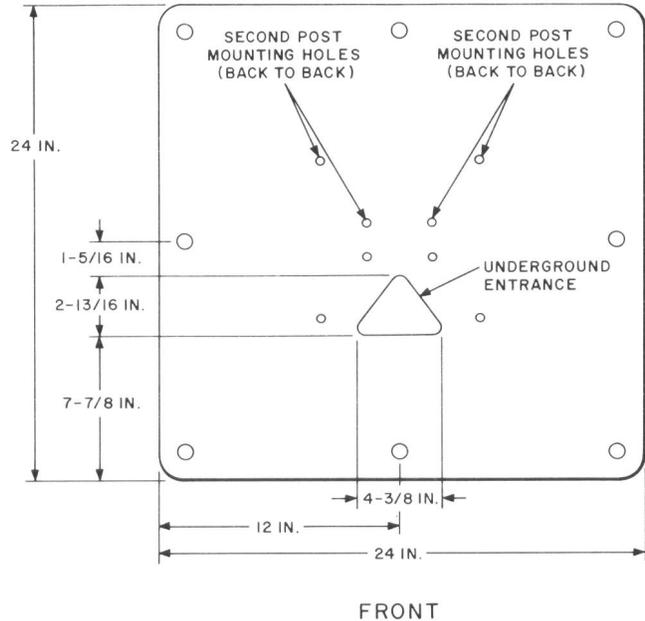

Fig. 3—B-565322 Base
- (a) Place base (Fig. 3) in the exact position that pedestal will be mounted.